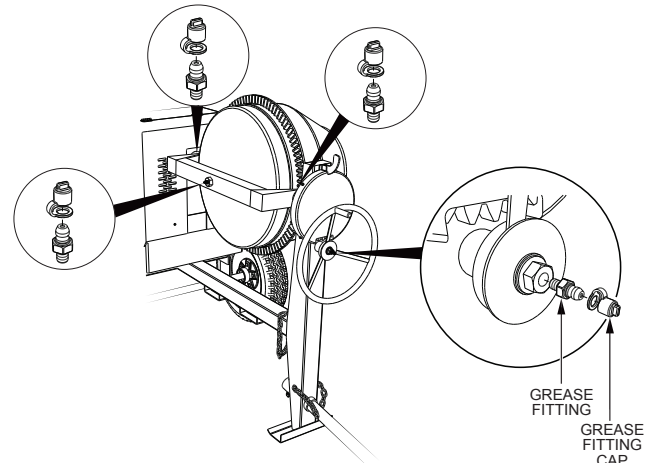

Figure 38. Grease Fittings (Mixer)
1. There are four grease (Figure 38) fittings that will require lubrication. Lubricate these fittings **once a week**. Use lithium base grease, grade N0.1.